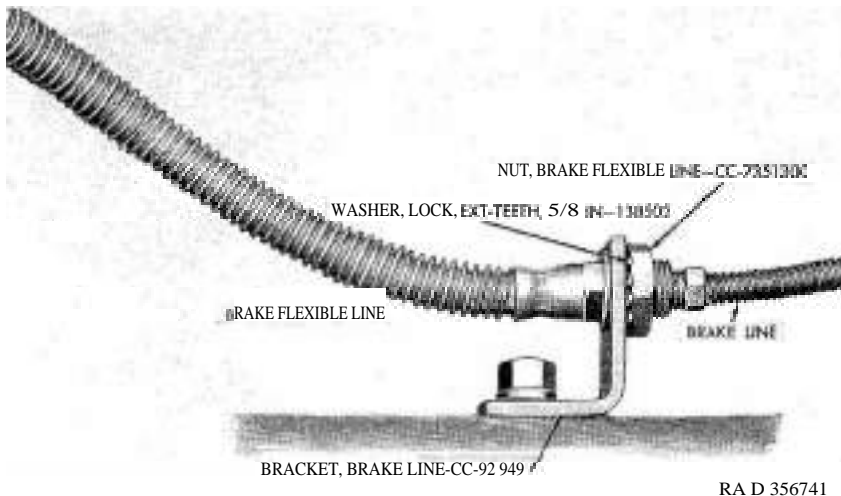

Figure 29. Brake flexible line disconnect points.
- (2) Disconnect brake flexible line at brake line bracket (*fig. 29*) on frame front cross member.
Remove shock absorbers as described in paragraph 48b. Disconnect brake flexible line at brake line bracket (fig. 29) on frame fuel tank support cross member. Remove nuts and lock washers from rear spring clips (four each side) . Remove spring clips and spring clip seats. Remove rear axle from vehicle.
- (19) Remove brake line brackets (*fig. 29*) from fuel tank support cross member (one nut, lock washer, and cap screw, each bracket).
c. *Install Brake Line Brackets* (fig. 29) . Install rear bracket on right side of fuel tank support cross member and front bracket on right rear flange of front cross member (one $\frac{3}{8}$ -24NF x 1 cap screw, $\frac{3}{8}$ -inch lock washer, and $\frac{3}{8}$ -24NF nut, each bracket).